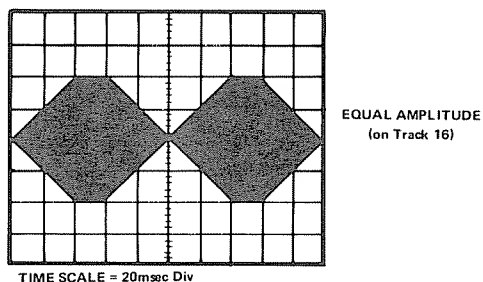

FIGURE 5-9. "CAT EYES" PATTERN
3. Read track 16 and verify the "cat eyes" pattern as shown in Figure 5-9. The smaller of the two "eyes" should not be less than 75% amplitude of the other.  $\% = (\text{small lobe}/\text{larger lobe}) \times 100$ .